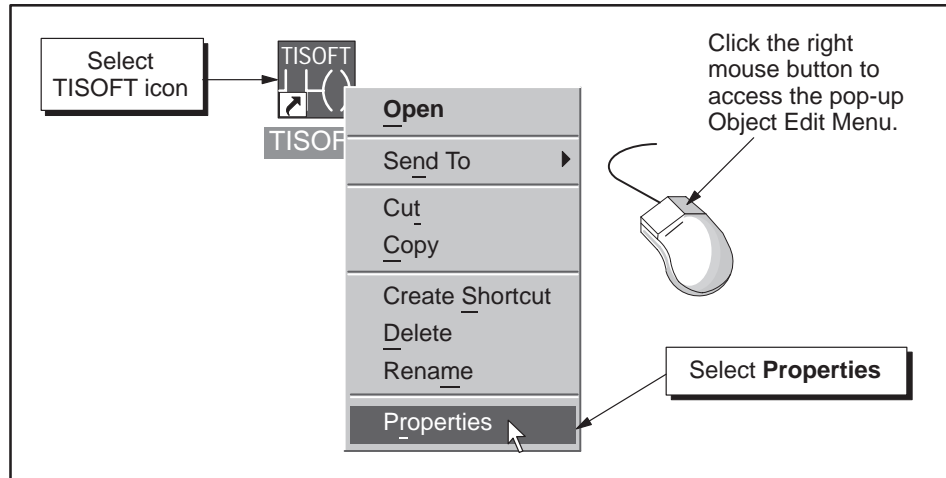

Figure 1-7 Accessing TISOFT Properties Dialog
2. With the mouse cursor on the selected TISOFT icon, click the right mouse button to access the pop-up menu, and select "Properties" as shown in Figure 1-7. A TISOFT Properties dialog appears.
2. With the mouse cursor on the selected TISOFT icon, click the right mouse button to access the pop-up menu, and select “Properties” as shown in Figure 1-7. A TISOFT Properties dialog appears.